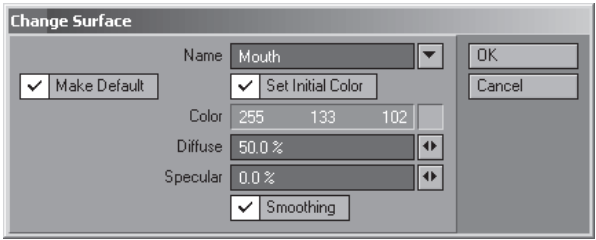

Figure 5.3-35. Mouth surface.
13. While we've still got the polygons selected, it's a good time to surface these differently than the rest of the head so we can quickly and easily select them again when it comes time to detail the inner mouth. **Change Surface** (q), type in **Mouth**, and use the other settings from Figure 5.3-35.